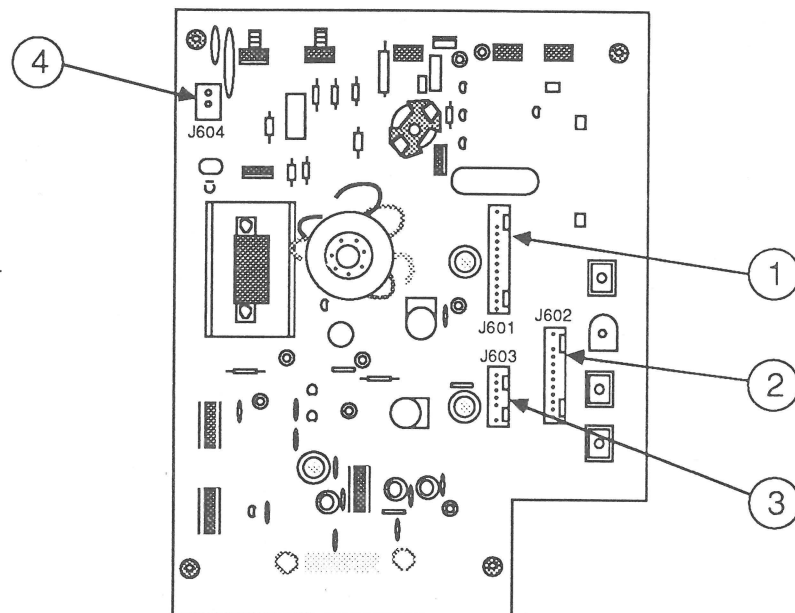

FIGURE 9
5. Detach from the video board the connectors listed in Table 1 and shown in Figure 9.